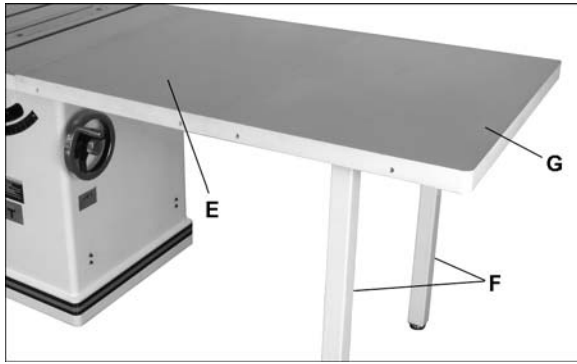

Figure 5
6. Install inner table extension (E, Figure 5), with slots toward saw, with three screws and washers.
8. Install legs (F) beneath outer table extension (G) with eight screws and washers.